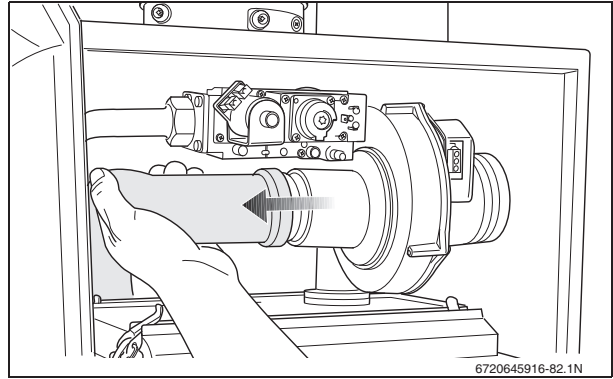

Fig. 81 Pulling the air suction tube from the fan
- Pull the air suction tube from the fan (fig. 81).